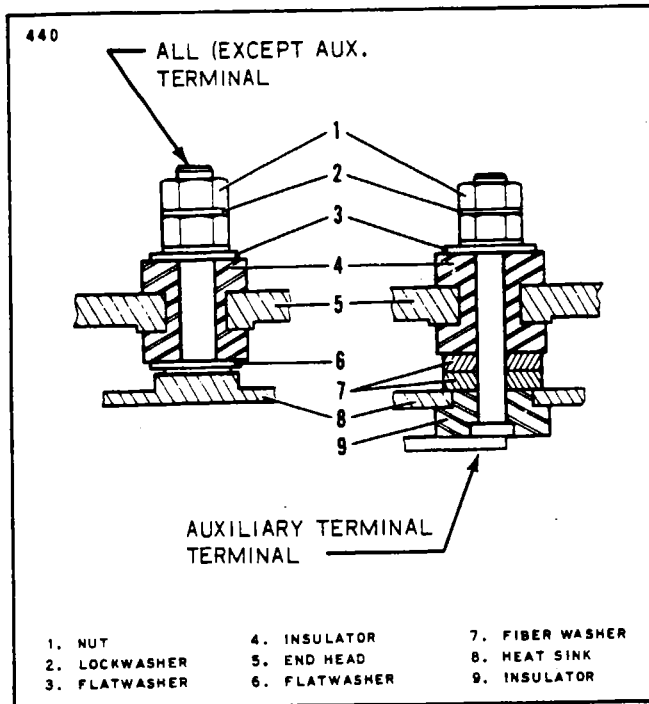

Figure 11-9. Terminal Assembly
b. Slip Ring End Assembly: Assemble the brush and terminal stud assemblies in the end head prior to assembling the heat sinks and stator. Make sure brush holder retaining screws are tight. A small amount of Lock-Tite on the retaining screw threads, prior to assembly, will provide additional vibration protection. Assemble the stator and rectifier heat sink assemblies in the end head, making certain the insulators are correctly assembled as shown in Figures 11-9. Position the stator leads so they will not interfere with the rotor.